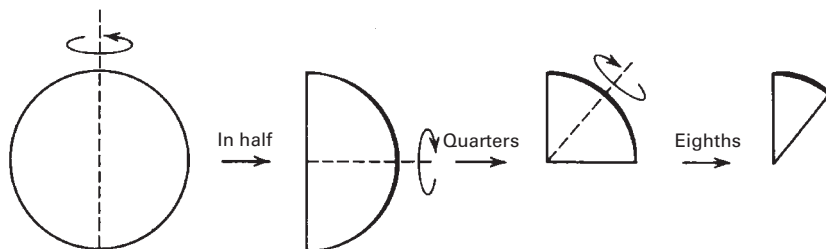

FIGURE 13.9 Folding filter paper into eighths.
1. Fold the paper in half, then in half again, then in half again (Fig. 13.9). Press on this wedge of paper to get the fold lines to stay, but *don't crease*. *Do this in one direction only*. Always fold either toward you or away from you, but don't do both.